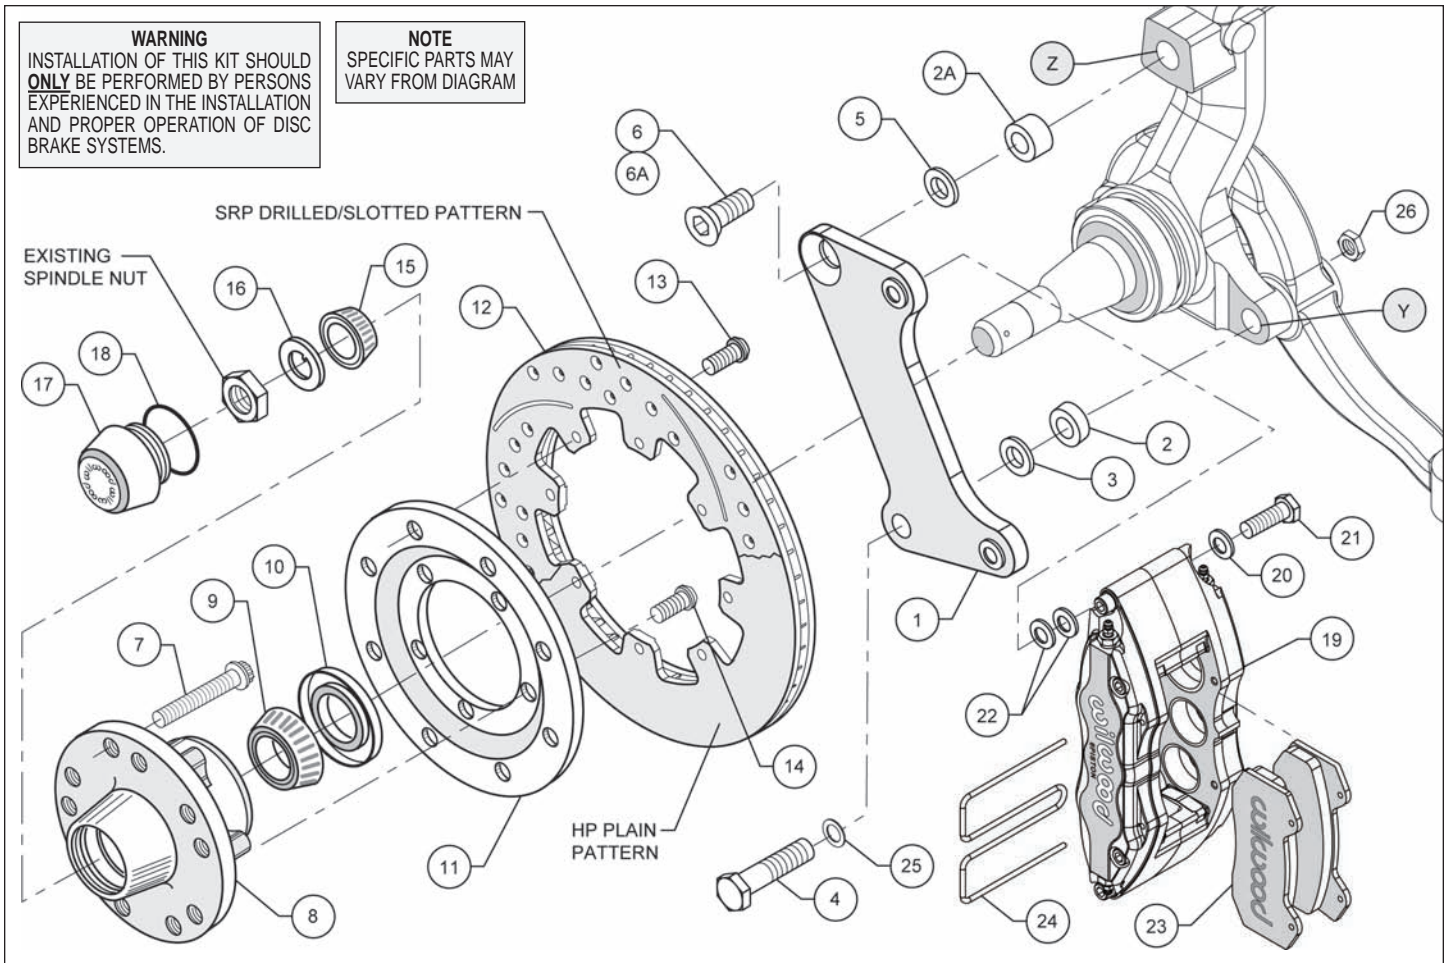
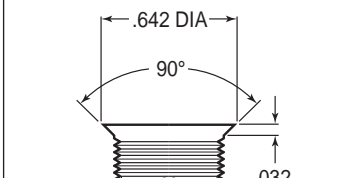

Figure 1. Typical Installation Configuration
Figure 3. Drill and Tap Detail
Assembly Instructions (numbers in parenthesis refer to the parts list and Figure 1 on the preceding page): **CAUTION:** All mounting bolts must fully engage clinch nuts. Be sure to check that all bolts are either flush or protruding through flanged side of clinch nut after shimming, Figure 4.
- NOTE:** 1964-66 spindles may require the following modifications (reference Figure 1 and Figure 3): Top anchor pin hole (Z) must be drilled and tapped to the dimensions as outlined in Figure 3. Bottom rear steering arm bolt hole (Y) in the spindle and steering arm must be enlarged to .50" by drilling.
- Install wheel studs (7) into the hub (8), Photo 1. Torque to 77 ft-lb. **NOTE:** There are two five lug patterns in the hub (5 x 4.50 and 5 x 4.75). Ensure the correct hub stud pattern is being used to fit the wheel application.
- Pack the large inner bearing cone (9) with high temperature disc brake bearing grease (available from your local auto parts store) and install into the backside of the hub (8), Photo 2.
- Install the grease seal (10) by pressing into the backside of the hub (8), flush with the end of the hub, Photo 2.
- Orient the rotor (12) and the rotor adapter (11) as shown in Figure 1 and Photo 3. Attach the rotor to the adapter using bolts (13). Using an alternating sequence, apply red *Loctite*® 271 to the threads, and torque to 25 ft-lb.
- Mount the adapter/rotor assembly (11/12) to the hub (8) using bolts (14), as shown in Figure 1 and Photo 4. Using an alternating sequence, apply red *Loctite*® 271 to the threads, and torque to 55 ft-lb.
- Attach caliper mounting bracket (1) to spindle face using lower bolt (4), washer (25), and a .090" thick spacer (2) positioned between the bracket and the spindle face, as shown in Figure 1 and Photo 5. Secure bolt on the backside of the steering arm with nut (26). Finger tighten. Install upper bolt (6) (for drum spindle) or bolt (6A) with spacer (2A) between bracket and spindle (for disc brake spindle), Photo 6. Ensure that the flanged heads of the clinch nuts in the bracket are facing outboard, Photo 6. Tighten the mounting bolts and temporarily install the new hub/rotor assembly (8/12). Check that the bracket is aligned parallel to the rotor, Photo 7. If not, adjust by adding shim washers (3 and/or 5) between spacers (2 and/or 2A) and the bracket, Figure 1. Once the bracket alignment is correct, remove the bolts one at a time, apply red *Loctite*® 271 to bolt threads, and torque upper bolt (6 or 6A) to 120 ft-lb. and lower bolt (4) to 77 ft-lb.
- Screw dust cap (17) into hub (8). Friction created by the o-ring (18) on the dust cap keeps it from unscrewing. **NOTE:** *The O.D. of the existing OEM spindle washer may be larger than the I.D. of the dust cap not allowing it to seat against the hub face. Therefore, use the spindle washer (16) supplied with the kit instead of the OEM washer.*
- **NOTE:** *Please reference the caution statement at the beginning of the assembly instructions. This kit contains distinct right and left hand calipers that must be mounted in a specific direction, as described below.* Mount the caliper (19) onto the caliper bracket (1) using bolts (21) and washers (20), as shown in Figure 1. Initially place two .035" thick shims (22) on each bolt between the caliper and the bracket, Photo 9. Ensure that the caliper is mounted so the largest pistons are at the rotor exit end of the caliper, in relation to the direction of rotor rotation. Temporarily tighten the mounting bolts and view the rotor (12) through the top opening of the caliper. The rotor should be centered in the caliper, Photo 10. If not, adjust by adding or subtracting shims (22) between the bracket and the caliper. Always use the same amount of shims on each of the two mounting bolts. **NOTE:** *The end of the bolt must be flush with or slightly protruding from the head of the clinch nut in the bracket.* If necessary, place spare shims between the washer and the caliper mounting ear to achieve the proper clinch nut engagement, as shown in Figure 4. Once the caliper alignment and clinch nut engagement are correct, remove the bolts one at a time, apply red *Loctite*® 271 to the threads, and torque to 40 ft-lb.